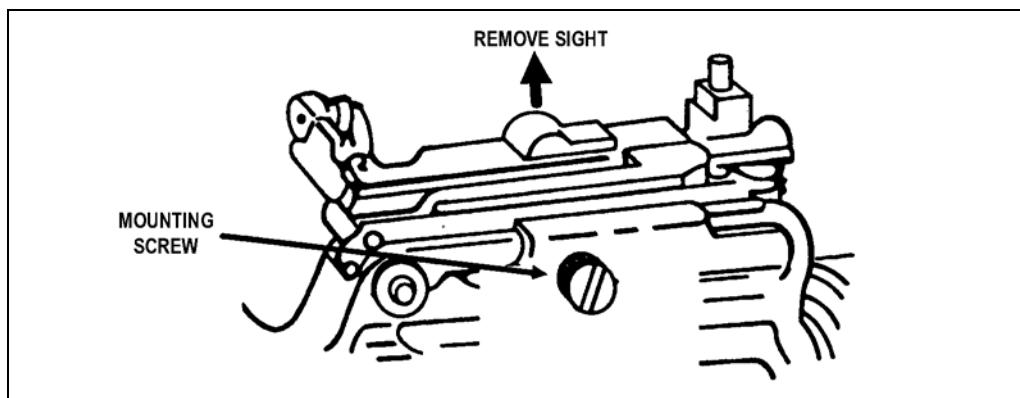

Figure 3-18. Removing the quadrant sight assembly.
- a. Loosen the mounting screw and remove the quadrant sight assembly from the carrying handle of the M16-series rifle (Figure 3-18, page 3-14).